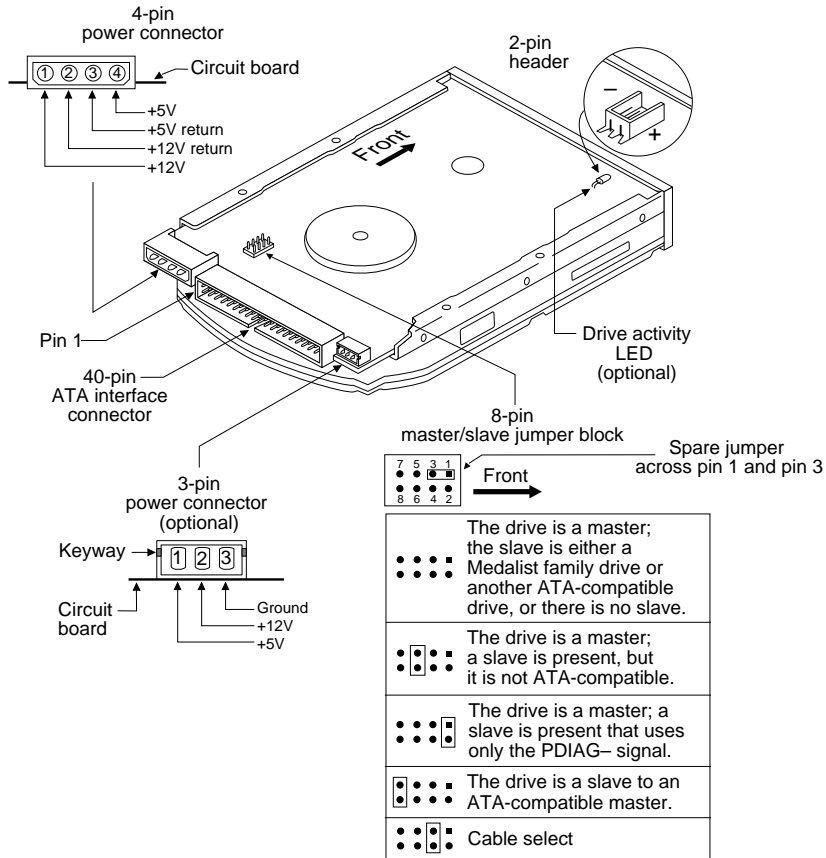
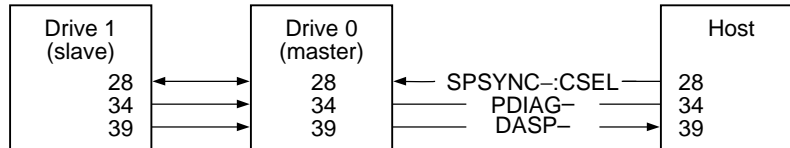

Figure 3. Connectors and jumpers
Figure 7. ATA connector pin assignments
This section discusses the ATA interface connector and other physical features of the drive, including mounting. Figure 3 on page 13 shows the location of the following features:
Figure 3 shows the location of the master/slave jumper block and shows how to install the jumpers for various configurations. The jumper block accepts 2-mm (0.079-inch) jumpers. A spare jumper is attached to the jumper block. If you need additional jumpers, use Seagate part number 10562-001 or an equivalent.
- Install a jumper on pins 3 and 4 of the master/slave jumper block as shown in Figure 3 on page 13. When a jumper is installed in this position, the drive ignores the jumper installed on pins 7 and 8.
The drives are available with or without the external activity LED shown in Figure 3 on page 13. This option is available for users for whom the activity display through the bus is inaccessible or inconvenient. There are two LED options:
The drive is connected to the computer through the 40-pin interface connector shown in Figure 3 on page 13. The pin assignments for the interface are shown in Figure 7 on page 20. For a complete description of each pin, see the *Seagate ATA Interface Reference Manual*.